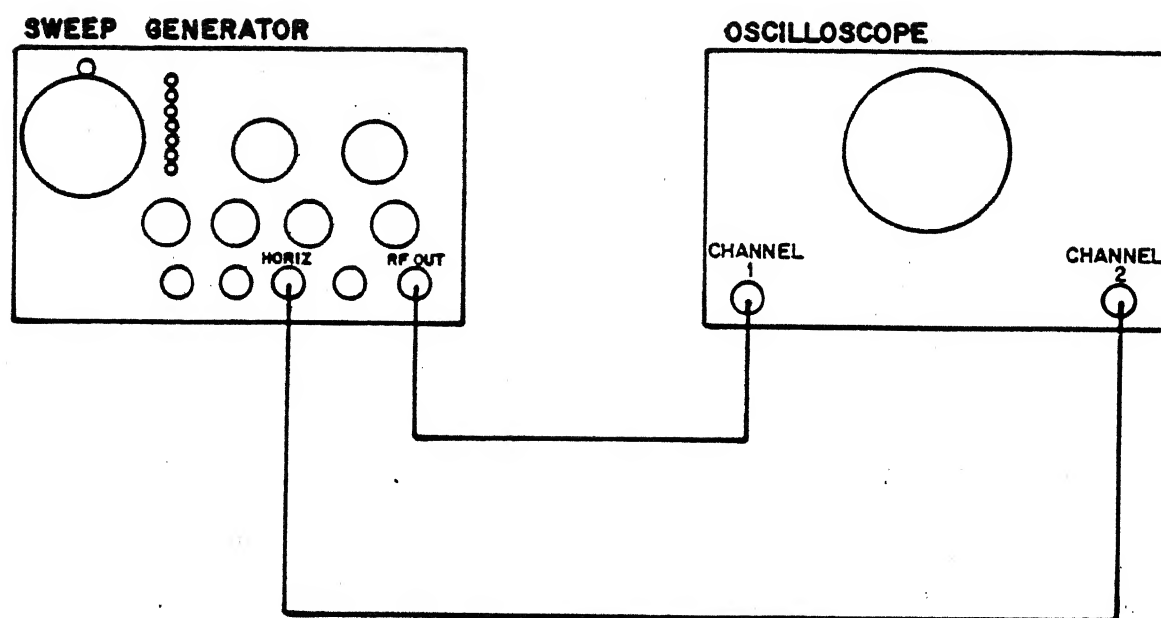

Figure 1
1. Connect the Sweep Generator as shown in Figure 1.